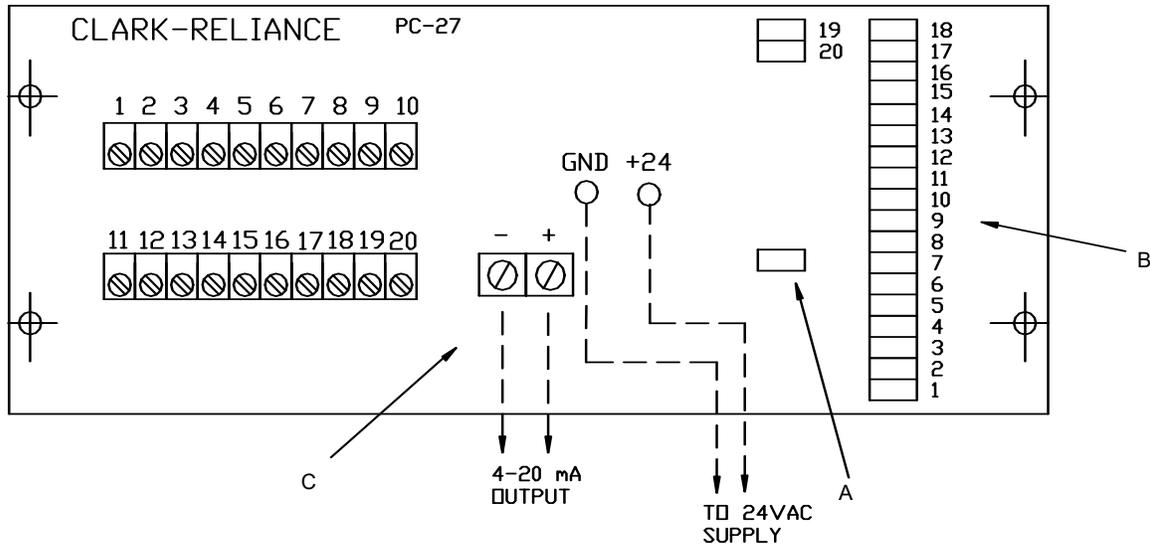

Fig. 4 4-20mA Output P-C Board
The transmitter PC board has been designed with 21 field adjustable potentiometers (see Fig. 4). One potentiometer has been provided to fine tune the 4-mA output with no level in the Electrolev (1). The remaining 20 potentiometers are numbered from 1 to 20. They correspond to the conductivity probes in sequence from the lowest to the uppermost (2). For example, if a 10 probe system is employed, then potentiometers #1 through #10 will be used.